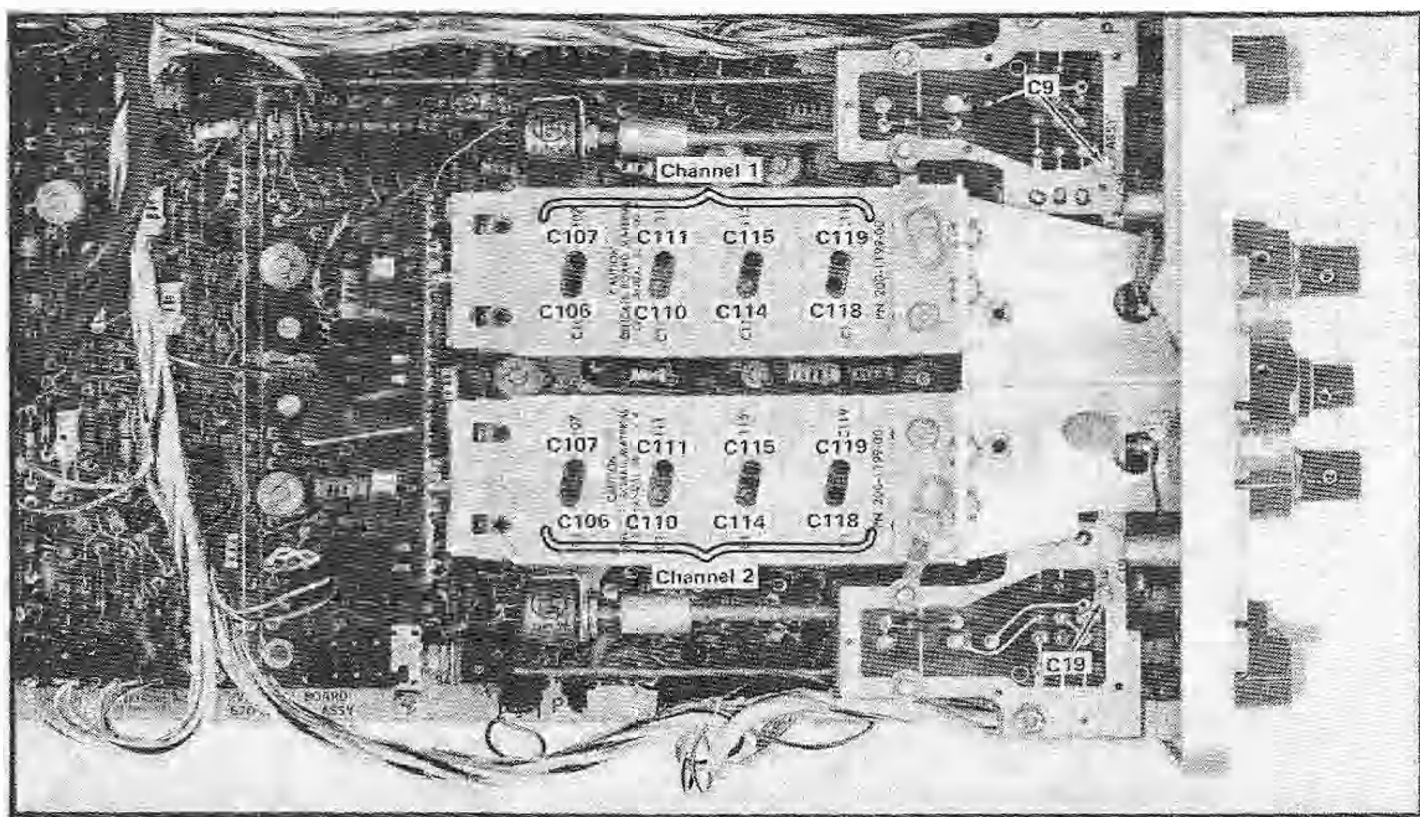

Fig. 5-8. Location of CH 1 & CH 2 VOLTS/DIV switch compensation adjustments.
f. ADJUST—Channel 1 VOLTS/DIV switch compensation as given in Table 5-2. Adjust for optimum square corner and flat top. Remove the 10X attenuator and 50 Ω BNC termination as necessary to maintain a five-division display amplitude. Fig. 5-8 shows the location of the variable compensation adjustments.
e. ADJUST—Channel 2 VOLTS/DIV switch compensation as given in Table 5-2. Adjust for optimum square corner and flat top. Remove the 10X attenuator and 50 Ω BNC termination as necessary to maintain a five-division display amplitude. Fig. 5-8 shows the location of the variable compensation adjustments.